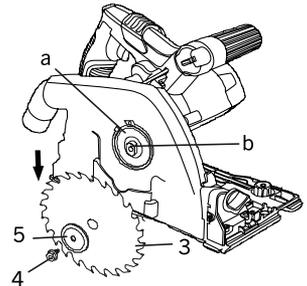

Fig. 3
- Coarse wood blade suitable for fast coarse cutting of wood and light density composite materials (comes installed on tool) (Fig. 3) Blade 40T (see (26) in Know your Plunge Cut Circular Saw on page 11).
NOTE: Do NOT remove the inner flange (a) from the arbor (b). (see Fig.3)